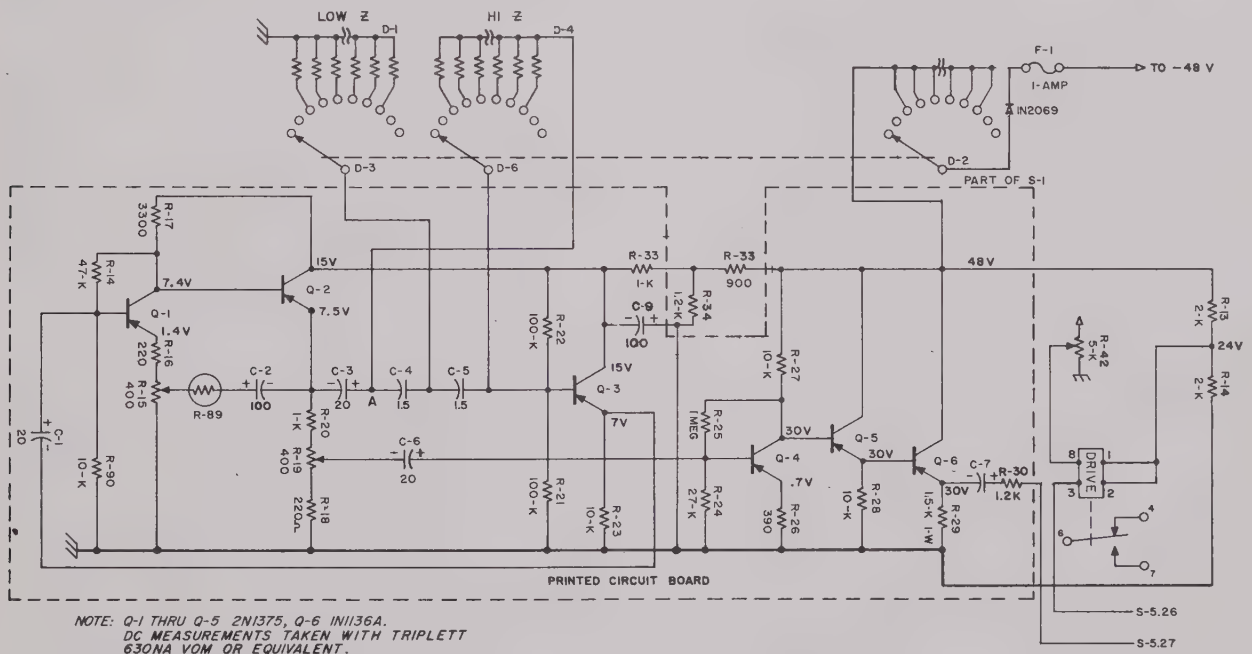
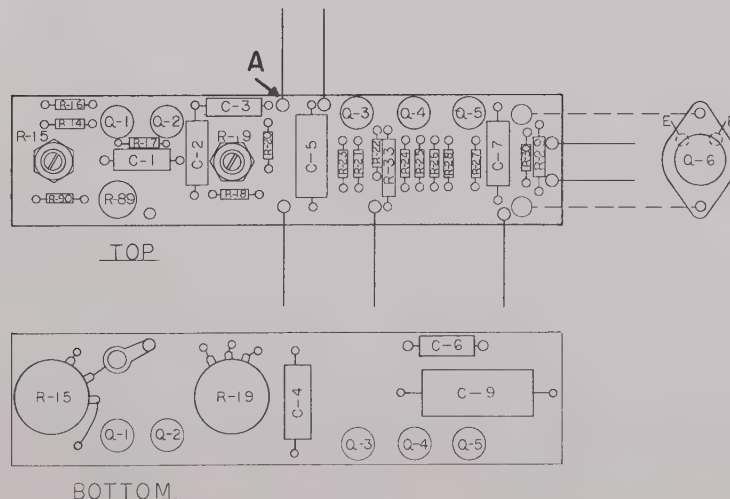

Figure 5-1
Figure 5-2
4.38 The circuit diagram to which the following description applies is shown in fig. 5.1. The location of the component part of this circuit is shown in fig. 5.2.
5.6 Referring to fig. 5-1, connect an oscilloscope between point A and ground. Point A is shown in fig. 5-2 which is the drawing of the printed circuit board assembly. The sine wave voltage appearing between these two points should be approximately 2.5 volts peak ~~to peak~~. If not, adjust potentiometer R15 to achieve this level. Turning R15 in a clockwise direction increases the positive feedback, and therefore increases the output level at point A. There should be no fluctuation of the signal level at this point once the level has been adjusted to approximately 2.5